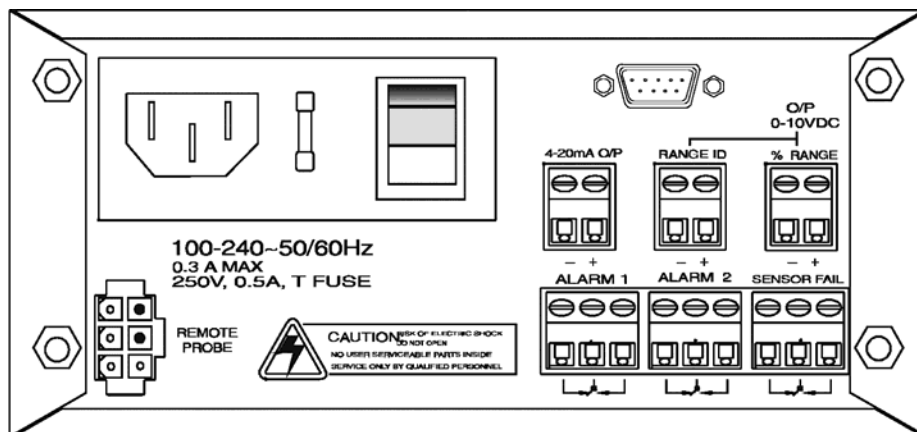

Figure 3-1: Rear Panel Electrical Connectors
Figure 3-1 shows the Model 3300ZB rear panel.
**Analog Outputs:** There are three DC output signal connectors with screw terminals on the panel. There are two wires per output with the polarity noted. See Figure 3-1. The outputs are: